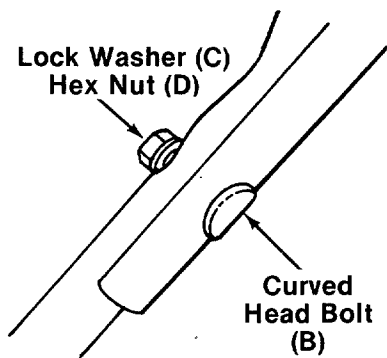

FIGURE 3.
- Place upper handle in position over lower handle. Control housing should be on the **left** side of the handle. Secure with two curved carriage bolts (B), lock washers (C) and hex nuts (D) as shown in figure 3.